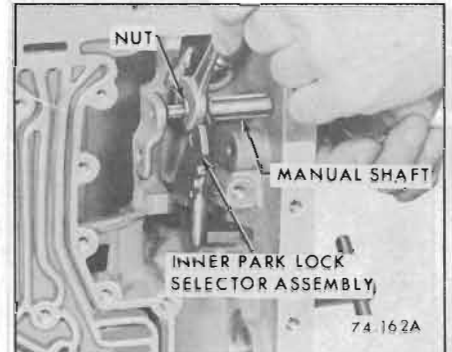

Figure 74-283
7. Slide manual shaft into case and tighten nut. See Figure 74-283.